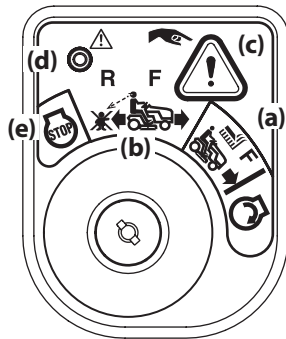

Figure 16
2. Turn the ignition key from the NORMAL MOWING (a) position to the REVERSE CAUTION MODE (b) position of the ignition switch. See Figure 16.
3. Press and hold the REVERSE CAUTION MODE BUTTON (c) at the top, right corner of the ignition module for 3 seconds. The red indicator light (d) at the top, left corner of the ignition module will be ON while activated. See Figure 16.
4. Once activated (indicator light ON), the tractor can be driven in reverse with the PTO (Blade Engage) in the engaged (ON) position.
The REVERSE CAUTION MODE (b) will remain activated until (see Figure 16 on page 18):